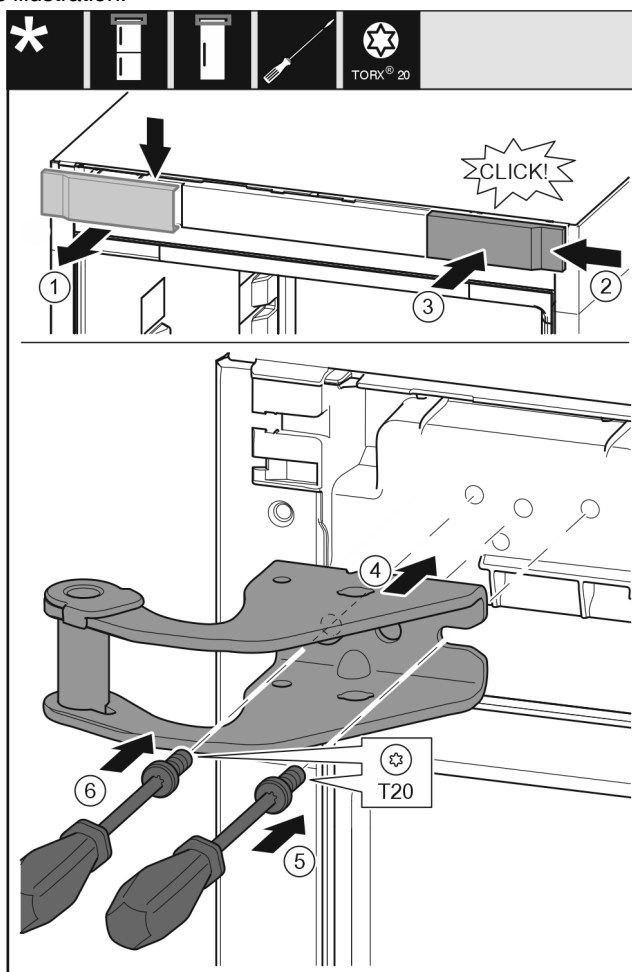

Fig. 19
- Take off the cover from above to the front. *Fig. 19 (1)*
- Rotate the cover 180° and clip onto the other side from the right. *Fig. 19 (2)*
- Latch the cover into place. *Fig. 19 (3)*
- Position the upper bearing bracket. *Fig. 19 (4)*
- Insert the screw with a T20 screwdriver and tighten it. *Fig. 19 (5)*
- Insert the screw with a T20 screwdriver and tighten it. *Fig. 19 (6)*